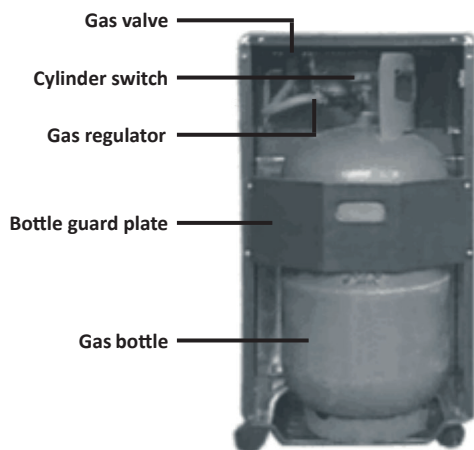

Fig. 4
*: The piezoelectric ignition button and gas control knob are not shown in figure 4.